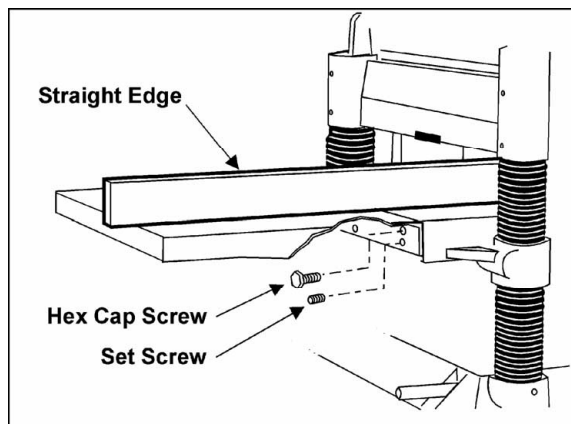

Figure 6a - JWP-208HH only
1. Mount a cast iron table to the edge of the main table with three M8 x 25 hex cap screws (Figure 6a). Do not fully tighten yet.